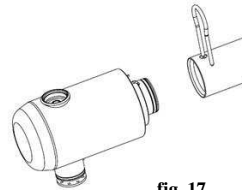

fig. 17
- With the locking device, push in the locking bolt and with light turns, pull away the outlet part. (fig. 17)